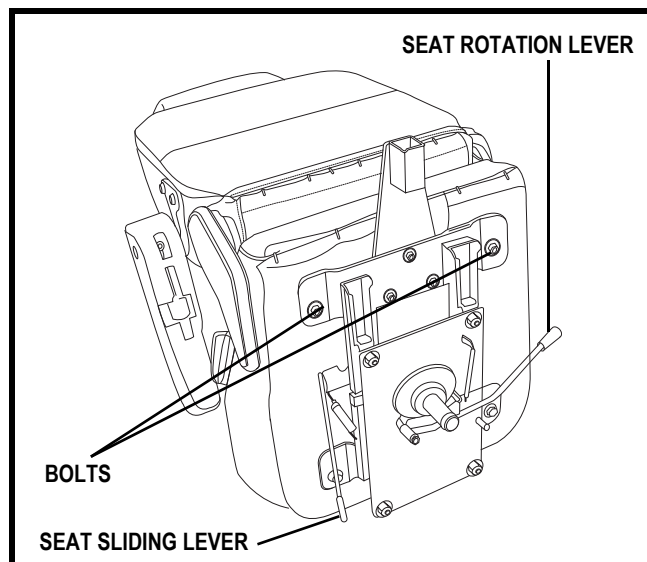

Figure 16A. Seat Adjustment Levers
1. Push forward on the seat rotation lever to disengage the seat. **See figure 16A.**
You can reposition the seat forward or backward to adjust the distance between the seat and the tiller. **See figure 16A.**
3. Remove the two bolts on the outermost part of the rear seat mounting strap. See figure 16A.